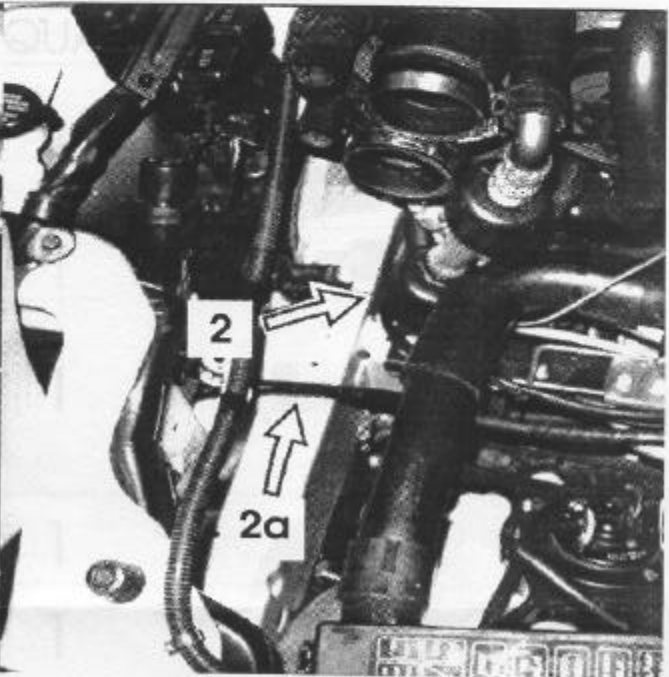

Figure 2 & 2a
7. Connect silencing chamber assembly to the air relief hose with the long end directed behind frame rail (Figure 2) then install and tighten #16 clamp.